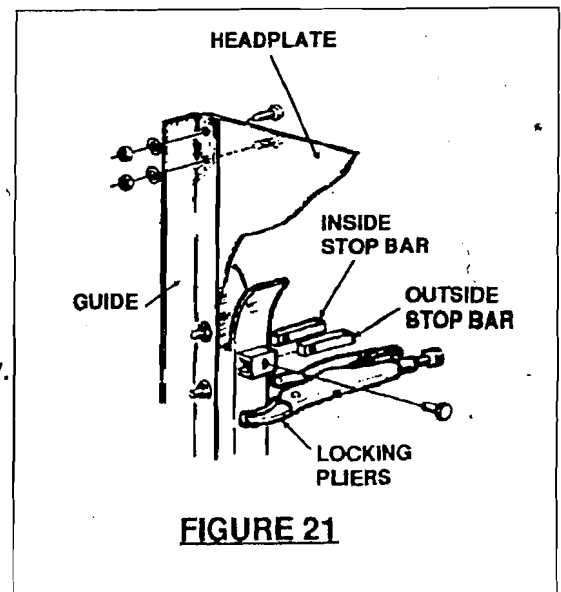

FIGURE 21
- If Guides are Flared, slide Stop Bar into Channel Holder welded to Guide, and install 3/8" Cap Screw. See Figure 21.